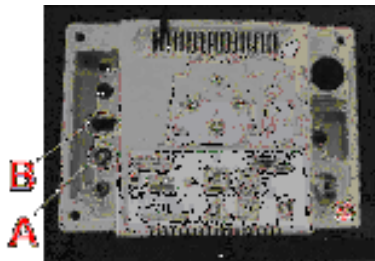

Figure C-5: Back of the Tango+ monitor
1. Plug the BNC end of the ECG trigger cable into the BNC external ECG connection on the rear panel of the Tango+. See A in Figure C-5.
1. Plug the RS-232 cable (9-pin female to 9-pin female) to the RS-232 connection (9-pin male) on the rear panel of the Tango+. See B in Figure C-5. Use a small flat-blade screwdriver to tighten the connectors.